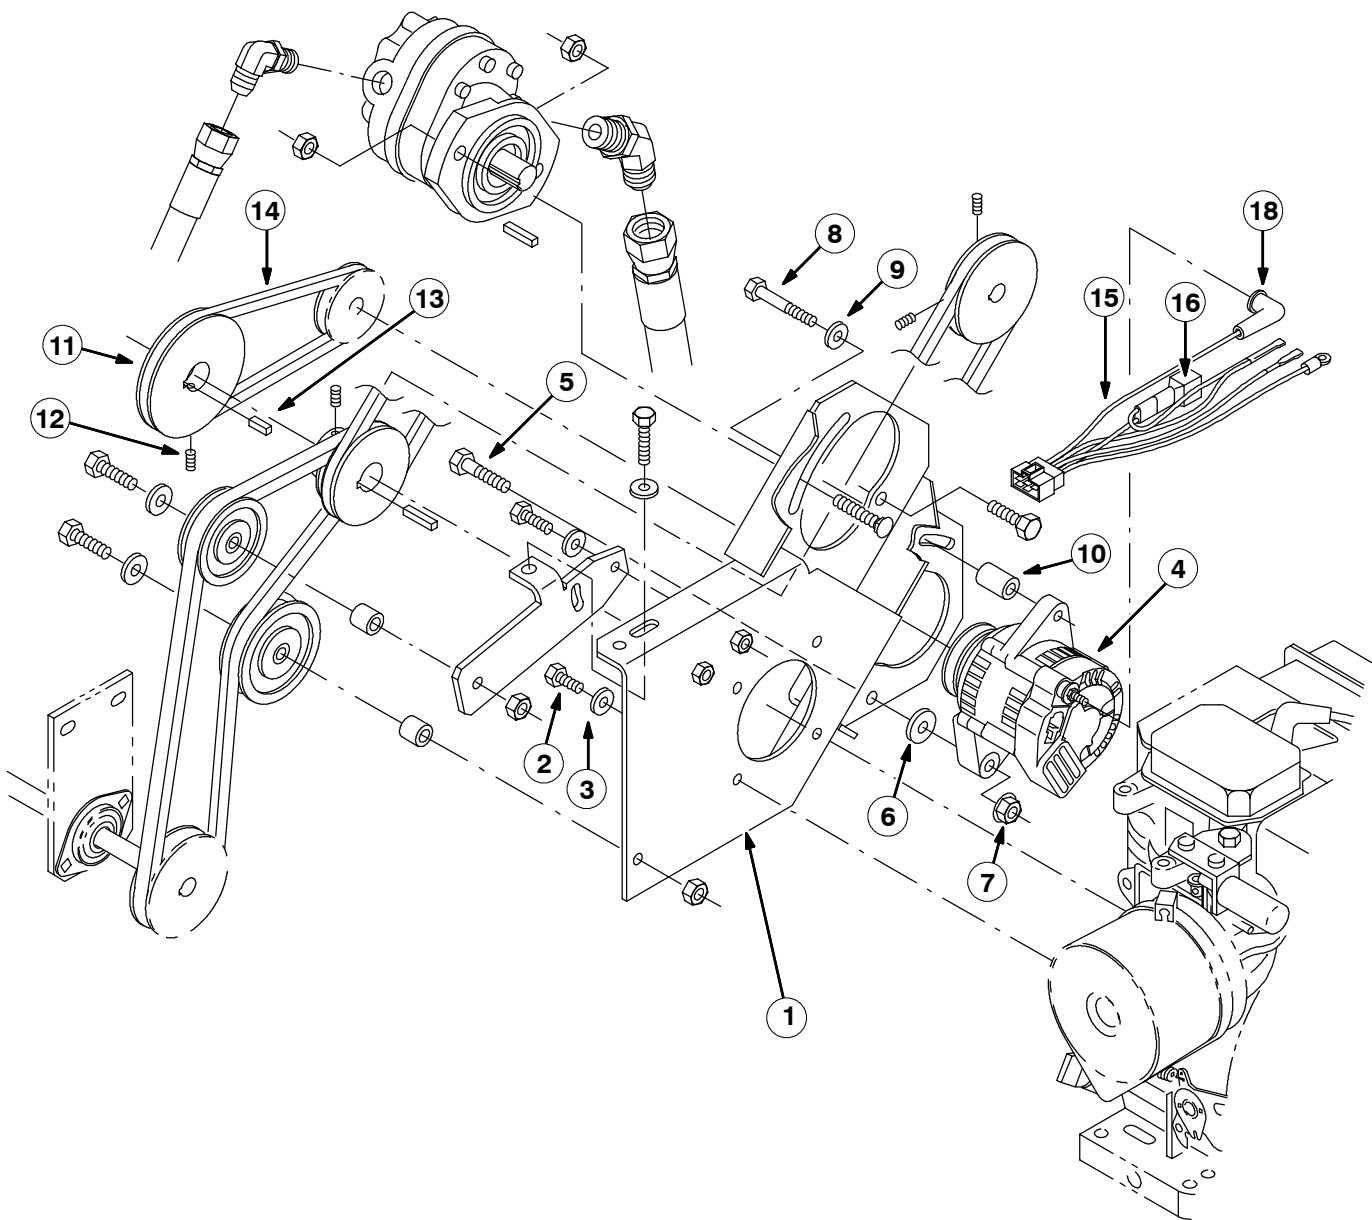
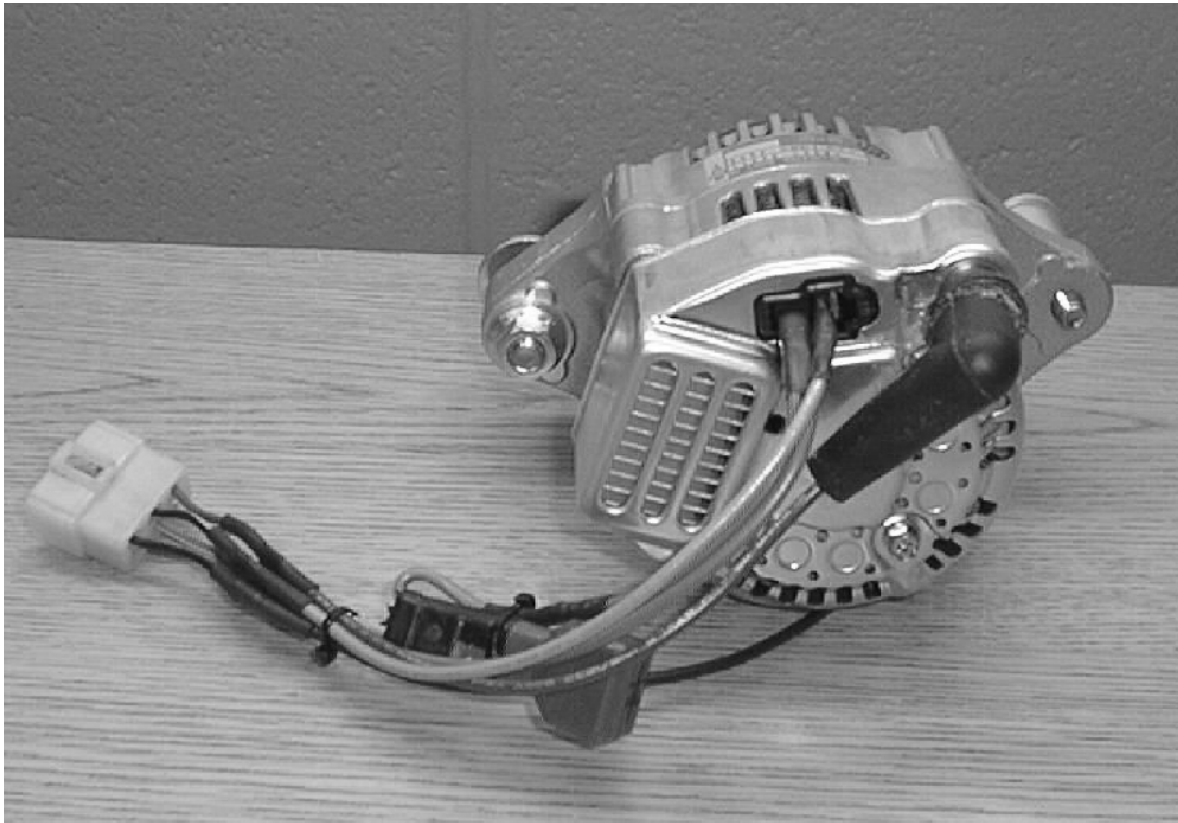

FIG. 6 - NEW MOUNTING PLATE AND ALTERNATOR INSTALLATION
FIG. 8 - NEW ALTERNATOR WIRING
18. Install the pump and belt to the new mounting plate. (Refer to FIG. 6)
19. Install the idler pulley with 9/16 wrench. (Refer to FIG. 6)
21. Check the mounting clearance for the new alternator. (Refer to FIG. 8 and 9)
22. Install the new alternator. (Refer to FIG. 8 and 9)
24. Locate the sheave for the alternator. Use the square key 1/4 X 1/4 X 3/4
25. Install the belt on the alternator. (Refer to FIG. 6)
30. Tighten the belt for the brush and the vacuum fan jackshaft. (Refer to FIG. 6)